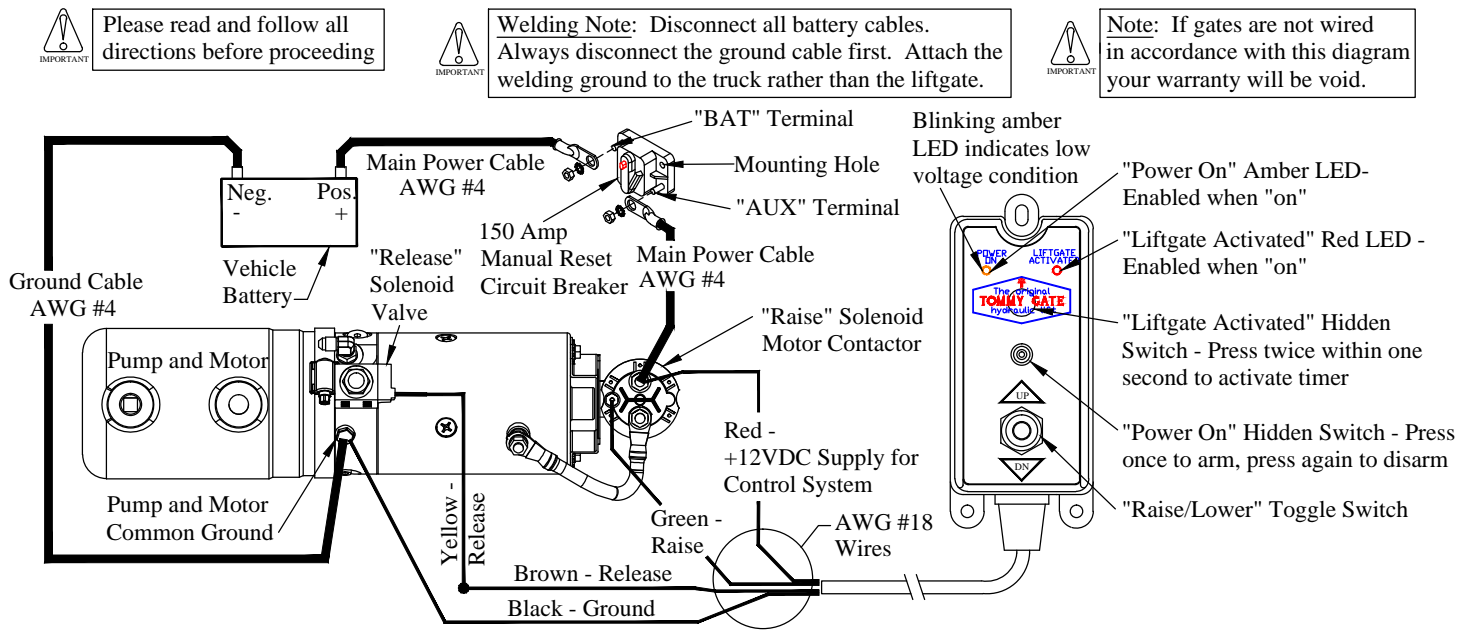

Figure 19: Wiring diagram.
3. **Push** the hidden "Power On" switch (Figure 19). The amber "Power On" LED will illuminate.
13. **Connect** the circuit breaker and battery as outlined in the *Tommy Gate Recommended Electrical Wiring Guidelines* and wiring diagram (Figure 19).